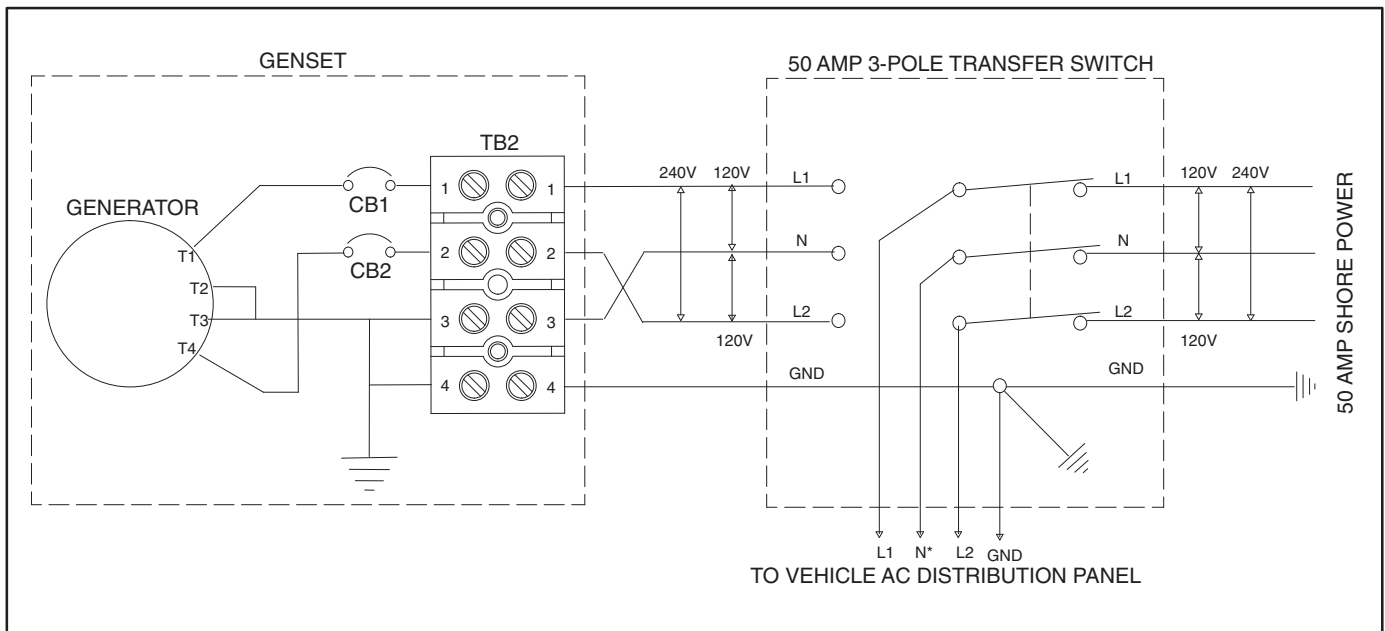

FIGURE 15. TYPICAL AC CONNECTIONS
See Figure 15 for typical connections. Wiring methods must be in accordance with the applicable codes, such as the National Electrical Code (NFPA No. 70).
7. Connect the grounding terminal (Terminal TB4-5, Figure 15) in accordance with applicable codes.
When the vehicle has provision for connecting utility power it must have an approved device to keep the genset and utility from being interconnected. See Figure 15 for typical connections.